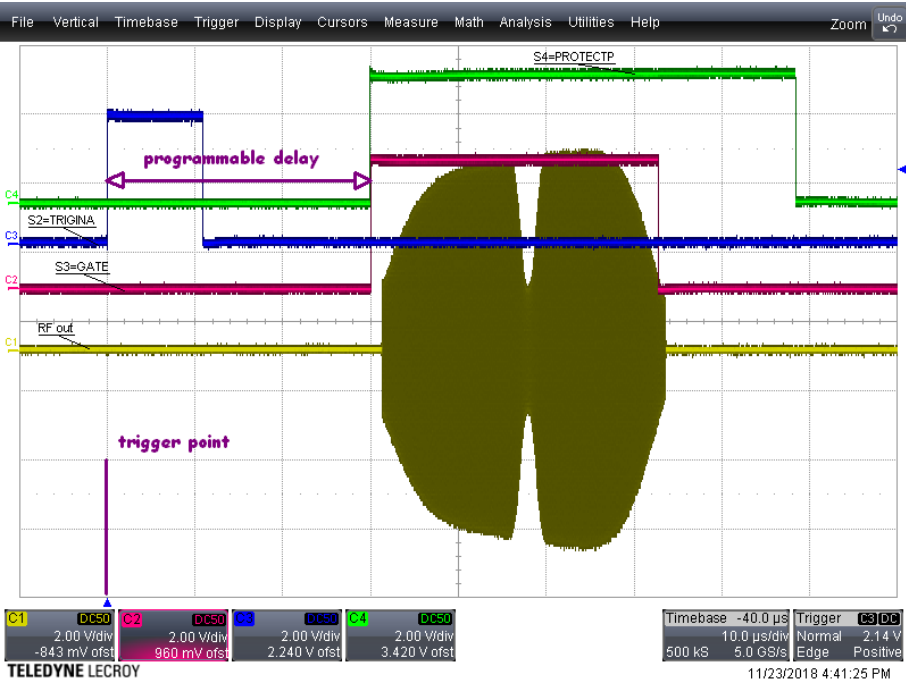
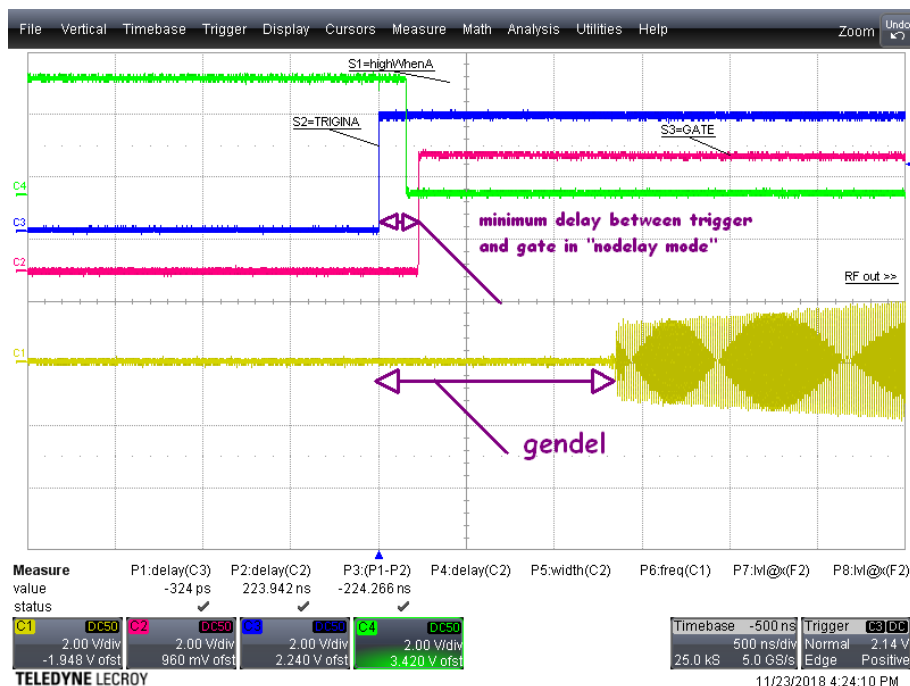

Figure 8.1: RF cycle programmable delay
Figure 8.3: Standard RF cycle - no delay - zoom
This is the normal mode of operation where one RF cycle is started by an external TRIGGER . Refer to the Figure 8.1 next.
- Figure 8.3 has similar conditions as in Figure 8.1, except that the trigger mode has been changed to NO DELAY mode: notice the small delay between TRIGGER and TRIGINA,
- on Figure 8.3 between TRIGINA and GATE and between GATE and the start of the RF signal. The delays depend of the sampling period $1/Fdata$.